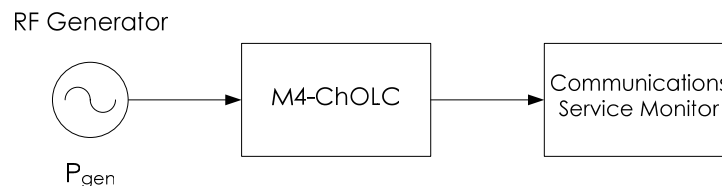

Figure 14: Status alarm troubleshooting test setup
1. Use the test circuit shown in Figure 14.